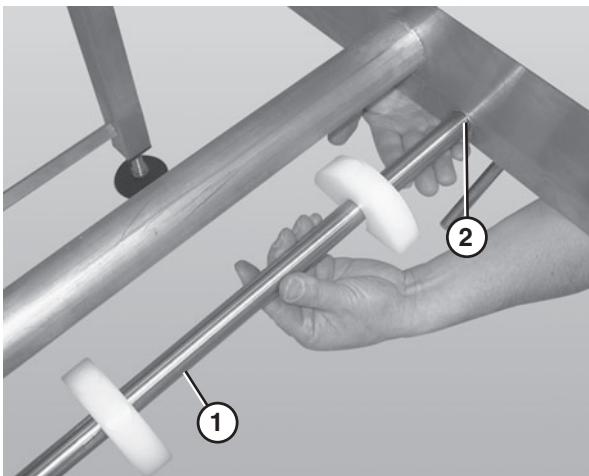

Figure 64
1. Remove the belt returns by pushing up on the return shaft (Figure 64, item 1) and sliding it through the large hole (Figure 64, item 2) in the frame.
2. Lower the opposite end of the return shaft (Figure 64, item 1) and slide it out of the frame.